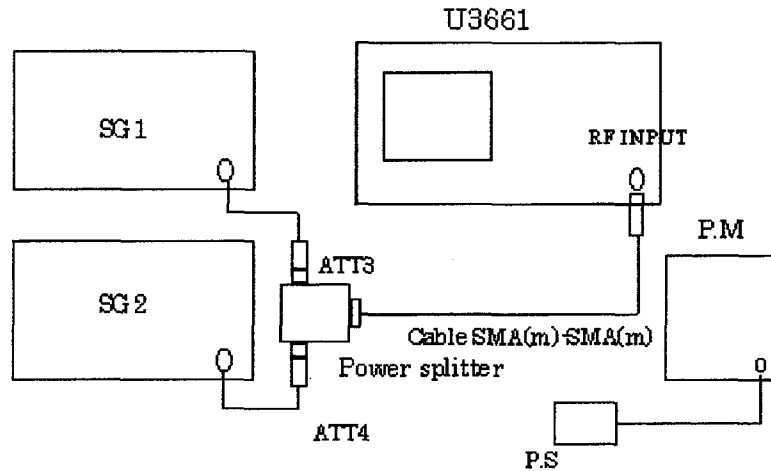

Figure 3-18 Setup of a Gain Compression Test
2. Connect equipment as shown in Figure 3-18.